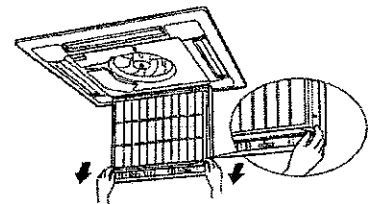

fig 2
2. Remove the air filter, Pull the hook of the air filter out diagonally downward, and remove the filter, shown as fig .2